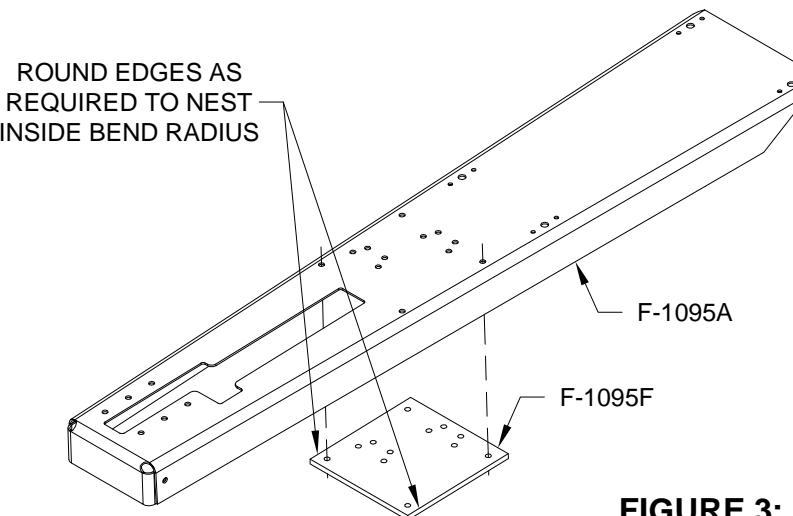

FIGURE 3:
Step 3: Fit the F-1095F Trim Servo Spacer to the underside of F-1095A Trim Mount Bracket as shown in Figure 3.
Step 4: Cleco the F-1095F Trim Servo Spacer to the F-1095A Trim Mount Bracket as shown in Figure 3. Cleco through the four corner holes in the trim servo spacer.